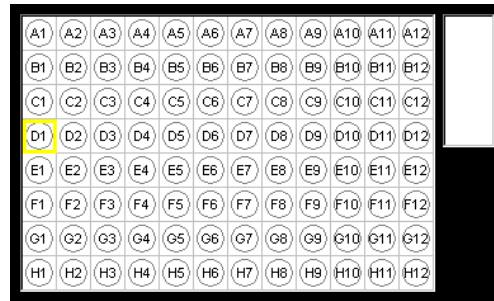

Figure 5-117 Microtiter Plate Image For Location Selection
7. Click the **drop-down arrow** to the right of the Eject/Retract button. An image of the microtiter plate and reservoir appears in the plate holder. See Figure 5-117.